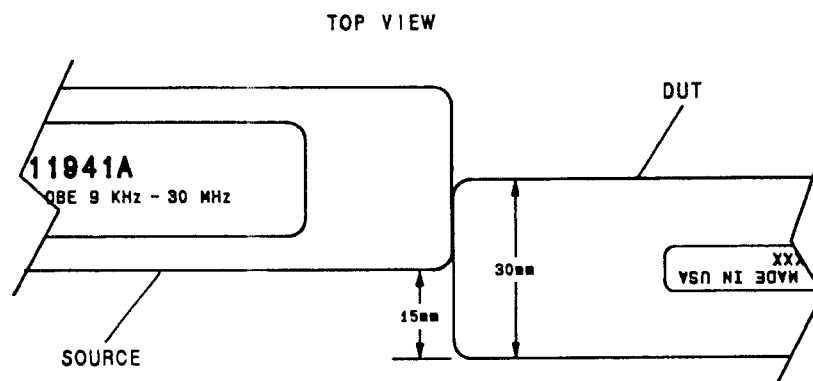

Figure 15. Detail of Probe Orientation for Insertion Loss Test
5. Realign the DUT as shown in figure 15. The calibration label of the DUT should face upward. This position illuminates the second sense loop of the DUT with the same magnetic field intensity as the first loop.